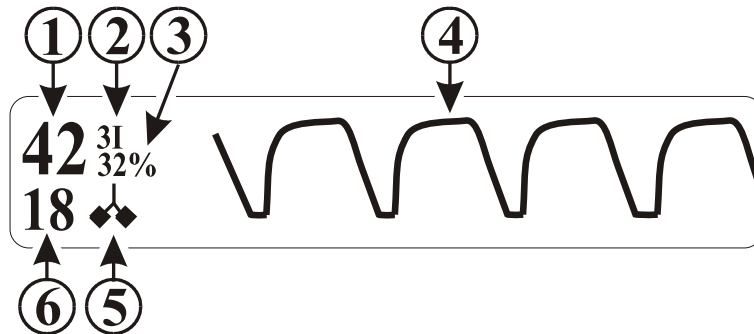

Figure 4-9. The EtCO2 Display
4.5.3 Associated Displays. (See Figure 4-9) The EtCO2 Display is located to the right of NIBP (if P2 is Off) or SpO2 (if P2 is On) on the bottom of the Normal Screen. The following is a description of the EtCO2 display: